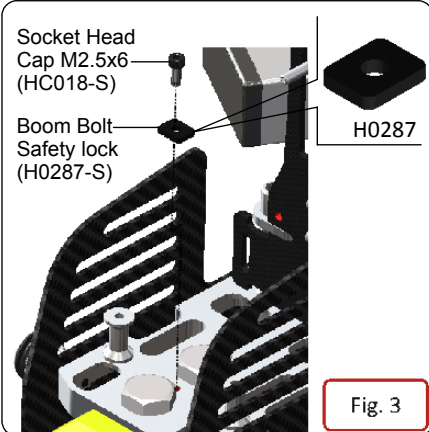

Fig. 3
- For additional safety, install the boom bolt safety lock (Fig 3)